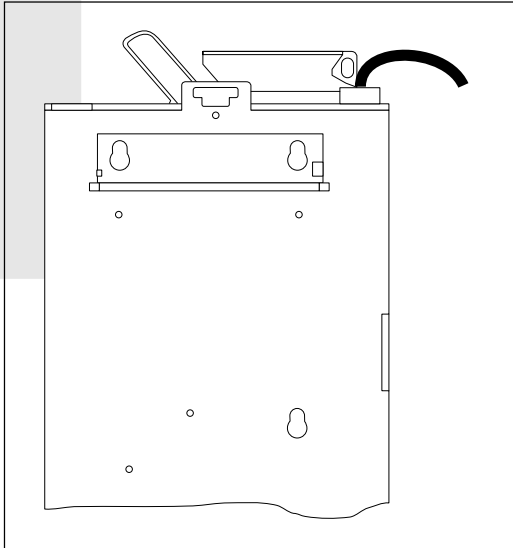

Fig. 6: Mounting the changer
- Mount the changer (3 holes) (fig. 6)